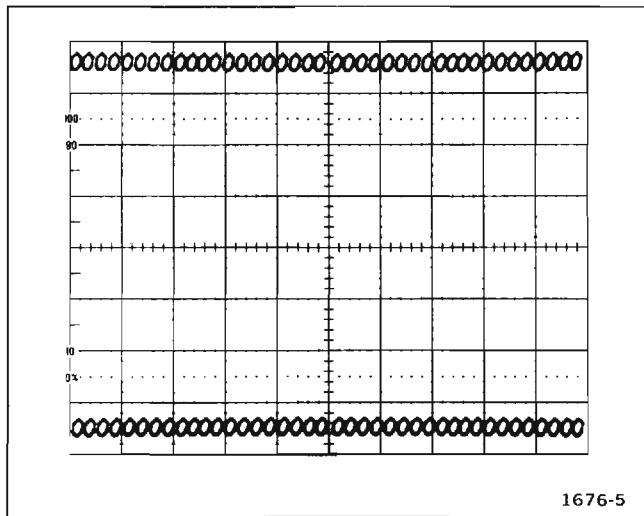

Figure 5-2. Readout display with Q2225 removed.
- e. EXAMINE—The crt display for two rows of zeros, 40 zeros to a row with no character overlap. The two rows of zeros should be located vertically in the middle of the top and bottom divisions of the graticule (see Fig. 5-2).